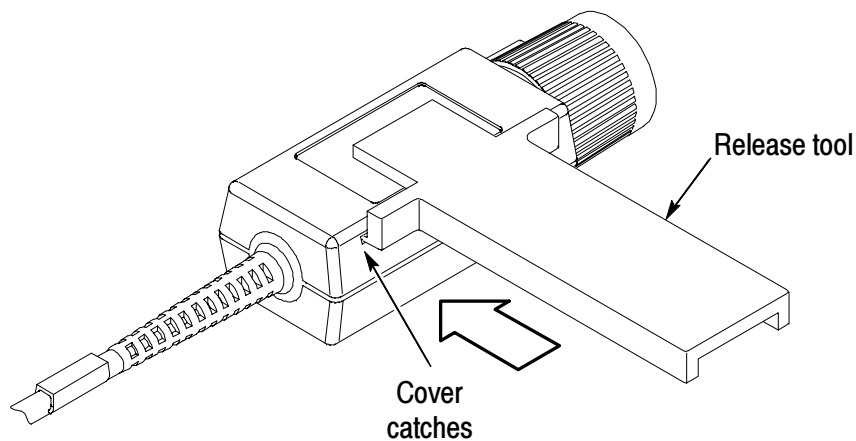

Figure 23: Removing the compensation box cover
1. Press the optional release tool pins into the compensation box cover catches and gently lift the cover off a small distance. Refer to Figure 23.